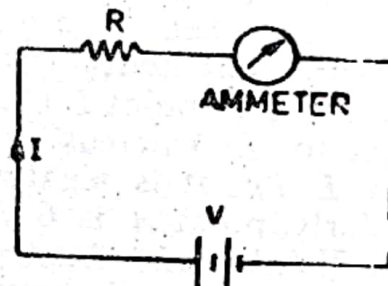

Fig. 2-6
In circuits energised by dc voltage sources, there exists a definite relationship between the current (I) that flows through a resistance (R) and the voltage (V) applied across the resistance (Fig. 2-6). This relationship is called Ohm's law and may be expressed by the equation